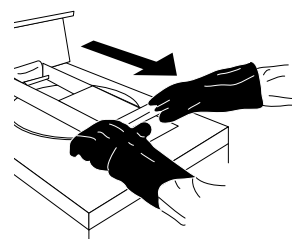

FIGURE 10
A. Use both hands on handlebar to lower lid. (Figure 10)